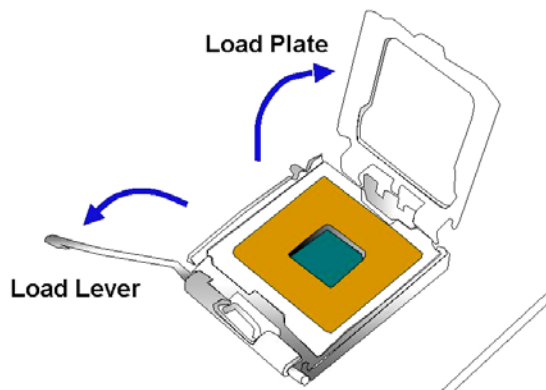

Figure 0-3: Open the CPU Socket Load Plate
Step 2: Open the socket. Disengage the load lever by pressing the lever down and slightly outward to clear the retention tab. Rotate the load lever to a fully open position. Then rotate the load plate towards the opposite direction. See **Figure 0-3**.